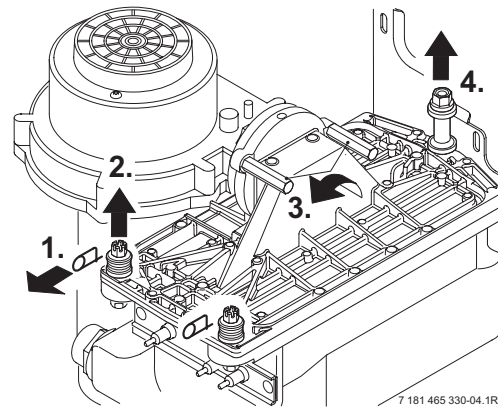

Fig. 54
- Remove the clips (1) and unscrew the two bolts (2). Refer to fig. 54.
- Unscrew and remove the two hexagon screws securing the fan (3).
- Slacken fully the rear securing bolt (4).